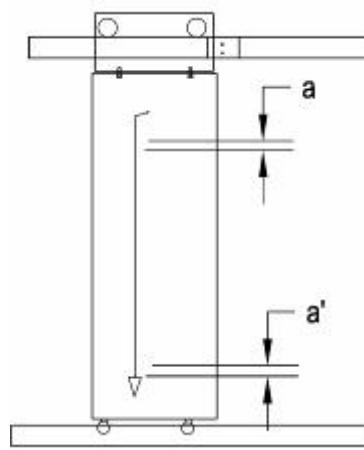

Figure 4
① Install the door slider in the plastic packaging onto the car door panel.
② Attach the car door panel to the hanging panel and tighten the bolts
③ Adjust the verticality of the hanging plate. If the hanging plate is inclined, insert the plug at the joint of the hanging plate and the door plate, as shown in Figure 4.
④ Adjust the gap between the caster wheel and the guide rail to 0.1~0.3mm.
⑤ Adjust the verticality of the two door panels and the distance between the door panels and the front wall and sill of the car, as shown in Figures 4 and 5.
⑥ Adjust the verticality of the two door panels and the distance between the door panels and the front wall and sill of the car, as shown in Figures 4 and 5.